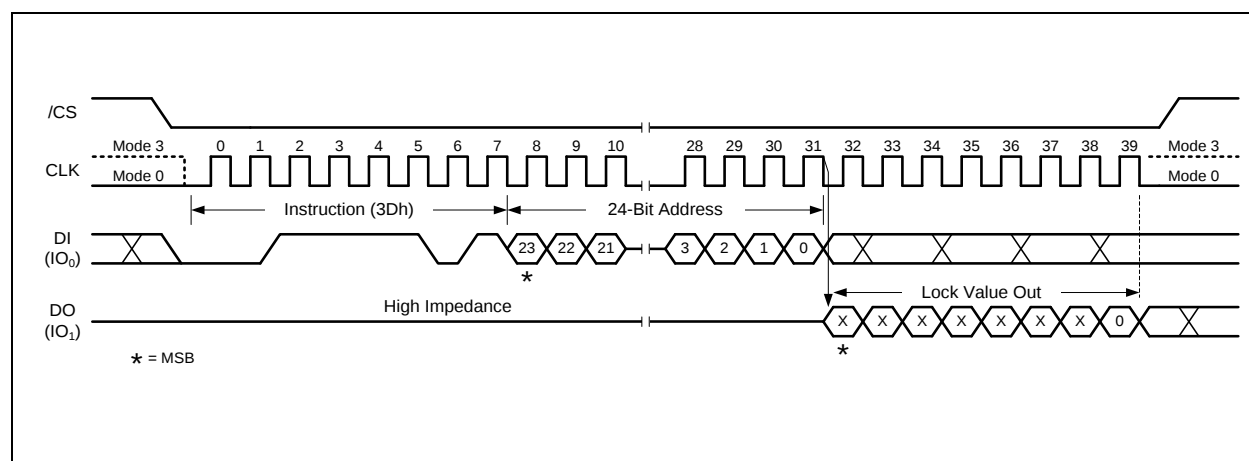

Figure 52. Read Block Lock Instruction
To read out the lock bit value of a specific block or sector as illustrated in Figure 4d, a Read Block/Sector Lock command must be issued by driving /CS low, shifting the instruction code "3Dh" into the Data Input (DI) pin on the rising edge of CLK, followed by a 24/32-bit address. The Block/Sector Lock bit value will be shifted out on the DO pin at the falling edge of CLK with most significant bit (MSB) first as shown in Figure 52. If the least significant bit (LSB) is 1, the corresponding block/sector is locked; if LSB=0, the corresponding block/sector is unlocked, Erase/Program operation can be performed.